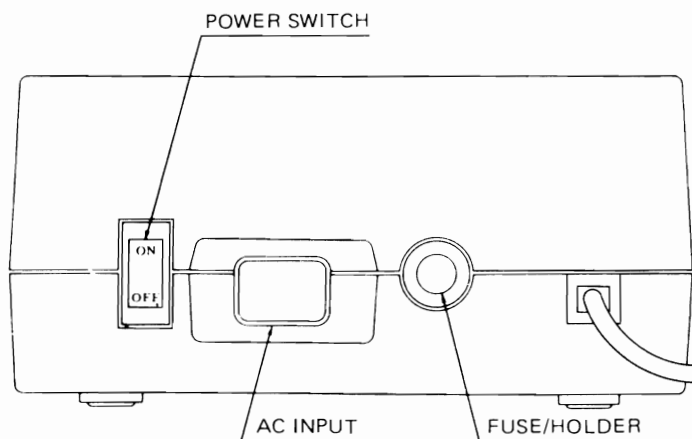

Figure 2. Back Panel
- Figure 2: Back panel**
The power cable plugs into the back of the disk drive at one end, and into a grounded (3-prong) outlet at the other end. It will only go in one way. Before you plug it in though, make sure that your entire computer system is turned off. The disk drive's on/off switch is in the back, on the left side (see Figure 2). It is off when the portion marked "off" is pushed inward. Leave your whole system off until everything is connected.
Bad fuse in disk drive	Replace fuse (located on back panel, as shown in Figure 2) with one of same size and rating